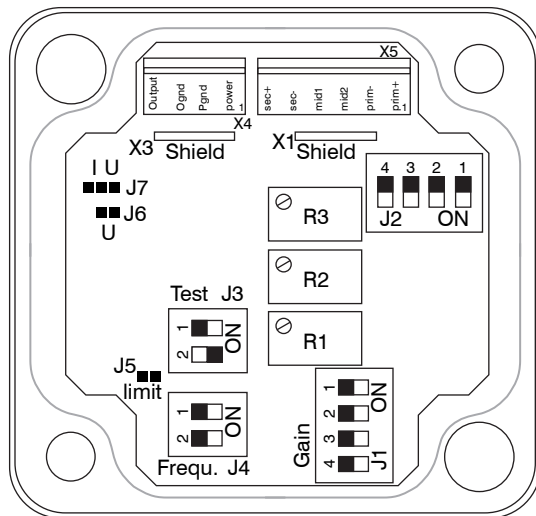

Fig. 7 Electronic unit
The power supply/output cable PC710-6/4 (available as an option) has a bend radius of 24 mm (minimum). All the connections for power supply / sensors / signal output are located on the electronics, see Fig. 7.
1. Set the frequency with J4, see Chap. 5.2.1. 2. Set the phase with J2, see Chap. 5.2.1. 3. Set the supply voltage for the sensor with J1, see Chap. 5.2.2. 4. Move switch S1 and S2 at J3, see Fig. 7, to ON.
➡ Set the frequency of the oscillator with the 2-pole DIP switch J4, see Fig. 7, for the position on the board.
➡ Set the phase with J2, see Fig. 7.
➡ Set the supply voltage for the sensor with the 4-pole DIP switch J1, see Fig. 7, for the position on the board).